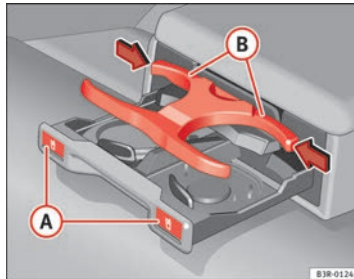

Fig. 119 Drink holder in the rear armrest
- Press the symbol  ⇒ Fig. 119.